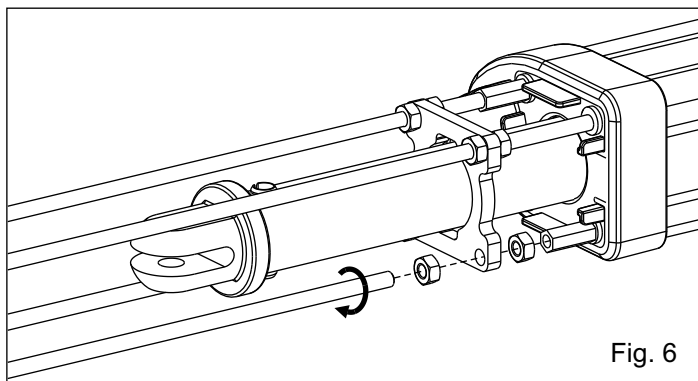

Fig. 6
6. Insert the nuts and screw the 4 tie rods until the stop (Fig. 6).